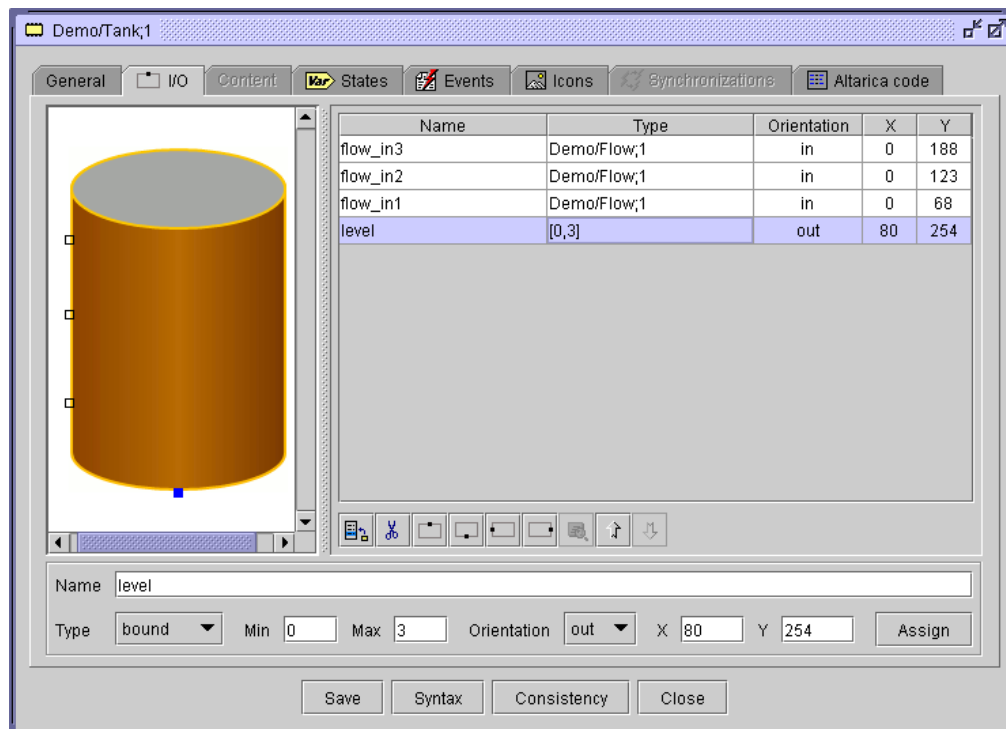

Figure 75 : I/O tab – Bound variable
- * **bound**: variable is an integer having a value between a lower bound and a upper bound (Figure 75),